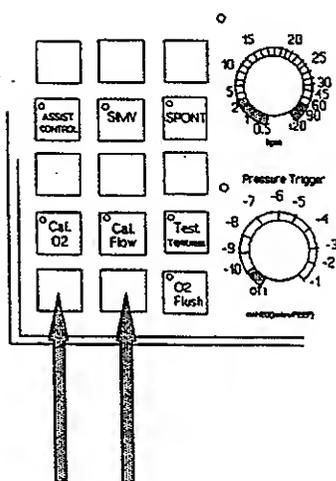

fig.12_5
7. Push the two button keys see figure 12_5. This will begin the program. "Print History" not available with SW-Version 33. In earlier SW-Versions than 33, press the "Print" button.